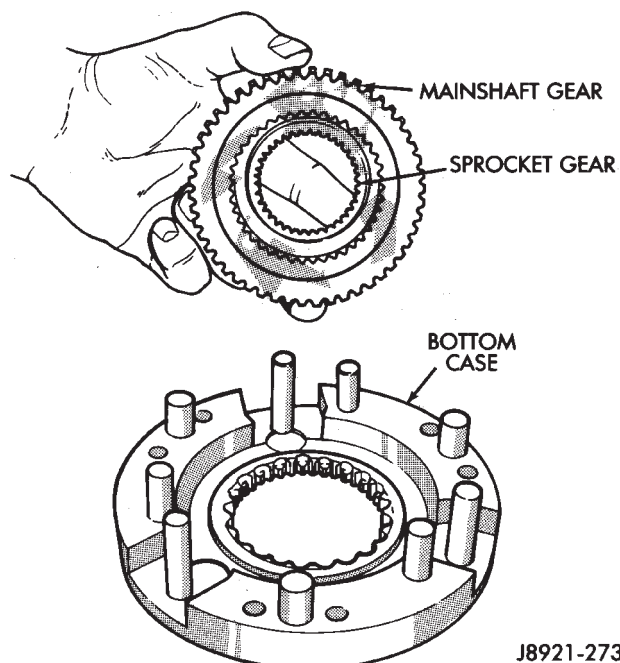

Fig. 44 Mainshaft And Sprocket Gear Removal
(6) Remove mainshaft and sprocket gears from bottom case (Fig. 44). Note gear position for reference before separating them.